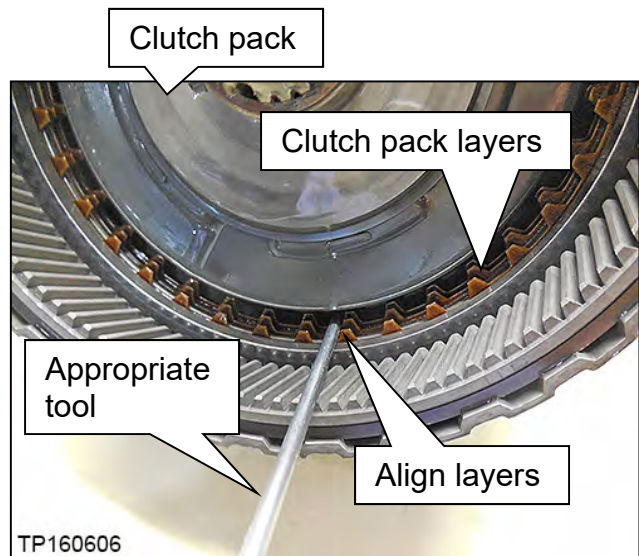

Figure 176
- Bottom of the clutch pack shown in Figure 176.